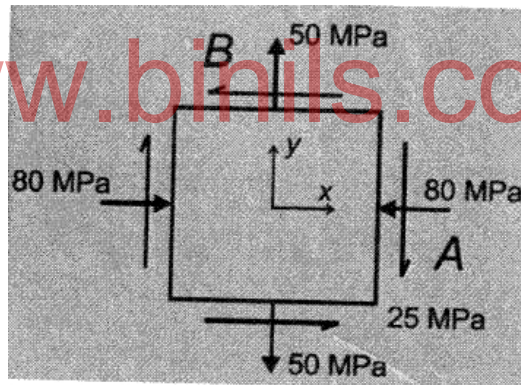

Figure 2
- (b) A material is subjected to stress as shown in Figure 2. Use the Mohr's circle to determine
- (iii) Show the principal stresses calculated above on a sketch of the element. (13)